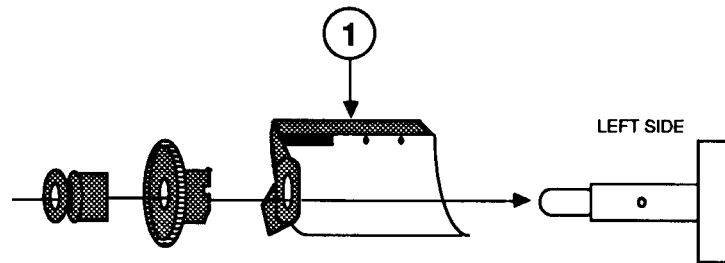

FIGURE 5
- If there is a paper-empty plate (Figure 5, #1), the mechanical paper sensor is installed.